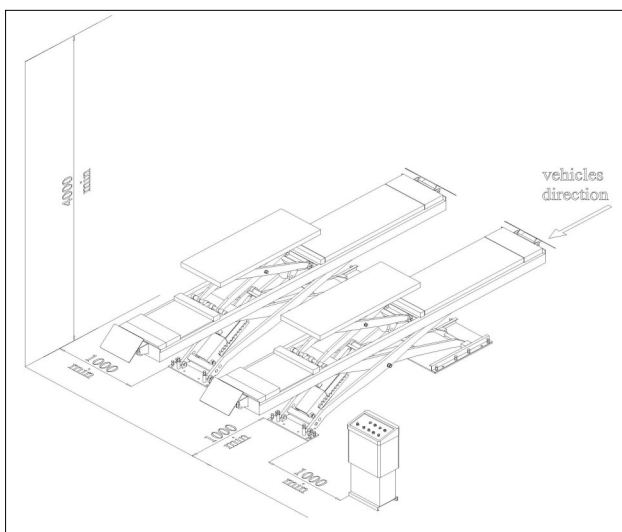

Fig. 16
- The car lift must be installed according to the specified safety distances from walls, pole and what other equipments stated. (Fig. 16)